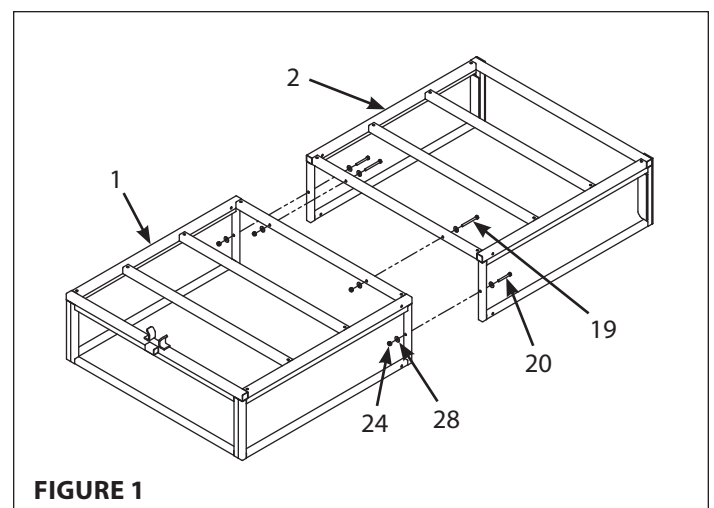

FIGURE 1
1. Secure the sides of the front trailer frame (1) to the sides of the rear trailer frame (2) using two M6x50mm bolts (20), M6 steel washers (28) and M6 locknuts (24). **SEE FIGURE 1**
2. Secure the bottom of the front trailer frame (1) to the bottom of the rear trailer frame (2) using two M6x65mm bolts (19), M6 steel washers (28) and M6 locknuts (24). **SEE FIGURE 1**